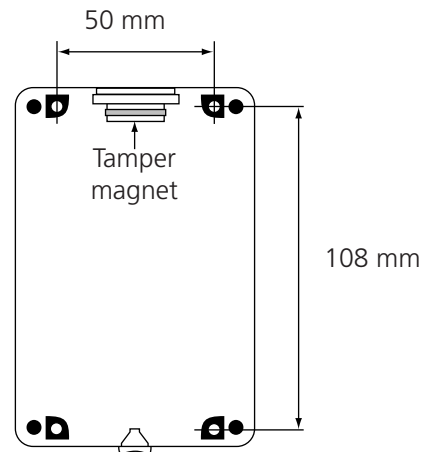

Figure 7. Mounting dimensions, L951A1 Antenna Unit.
- 2 Fasten the back plate of the case on the desired surface with four screws, see figure 7 for mounting dimensions. Mount the case with the cable entry downwards.